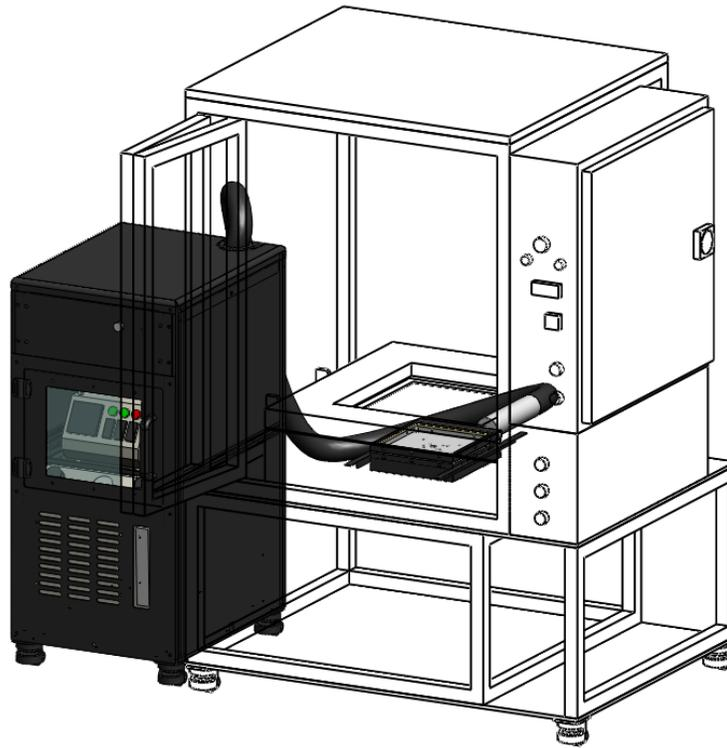

Figure 1.3 CM200 Install Diagram
1. Place the Sub Room Temperature Module console to the left of the TherMoiré unit as shown in **Figure 1.3**.
4. Disconnect the infrared (IR) oven power connector from the side of the TherMoiré IR oven.